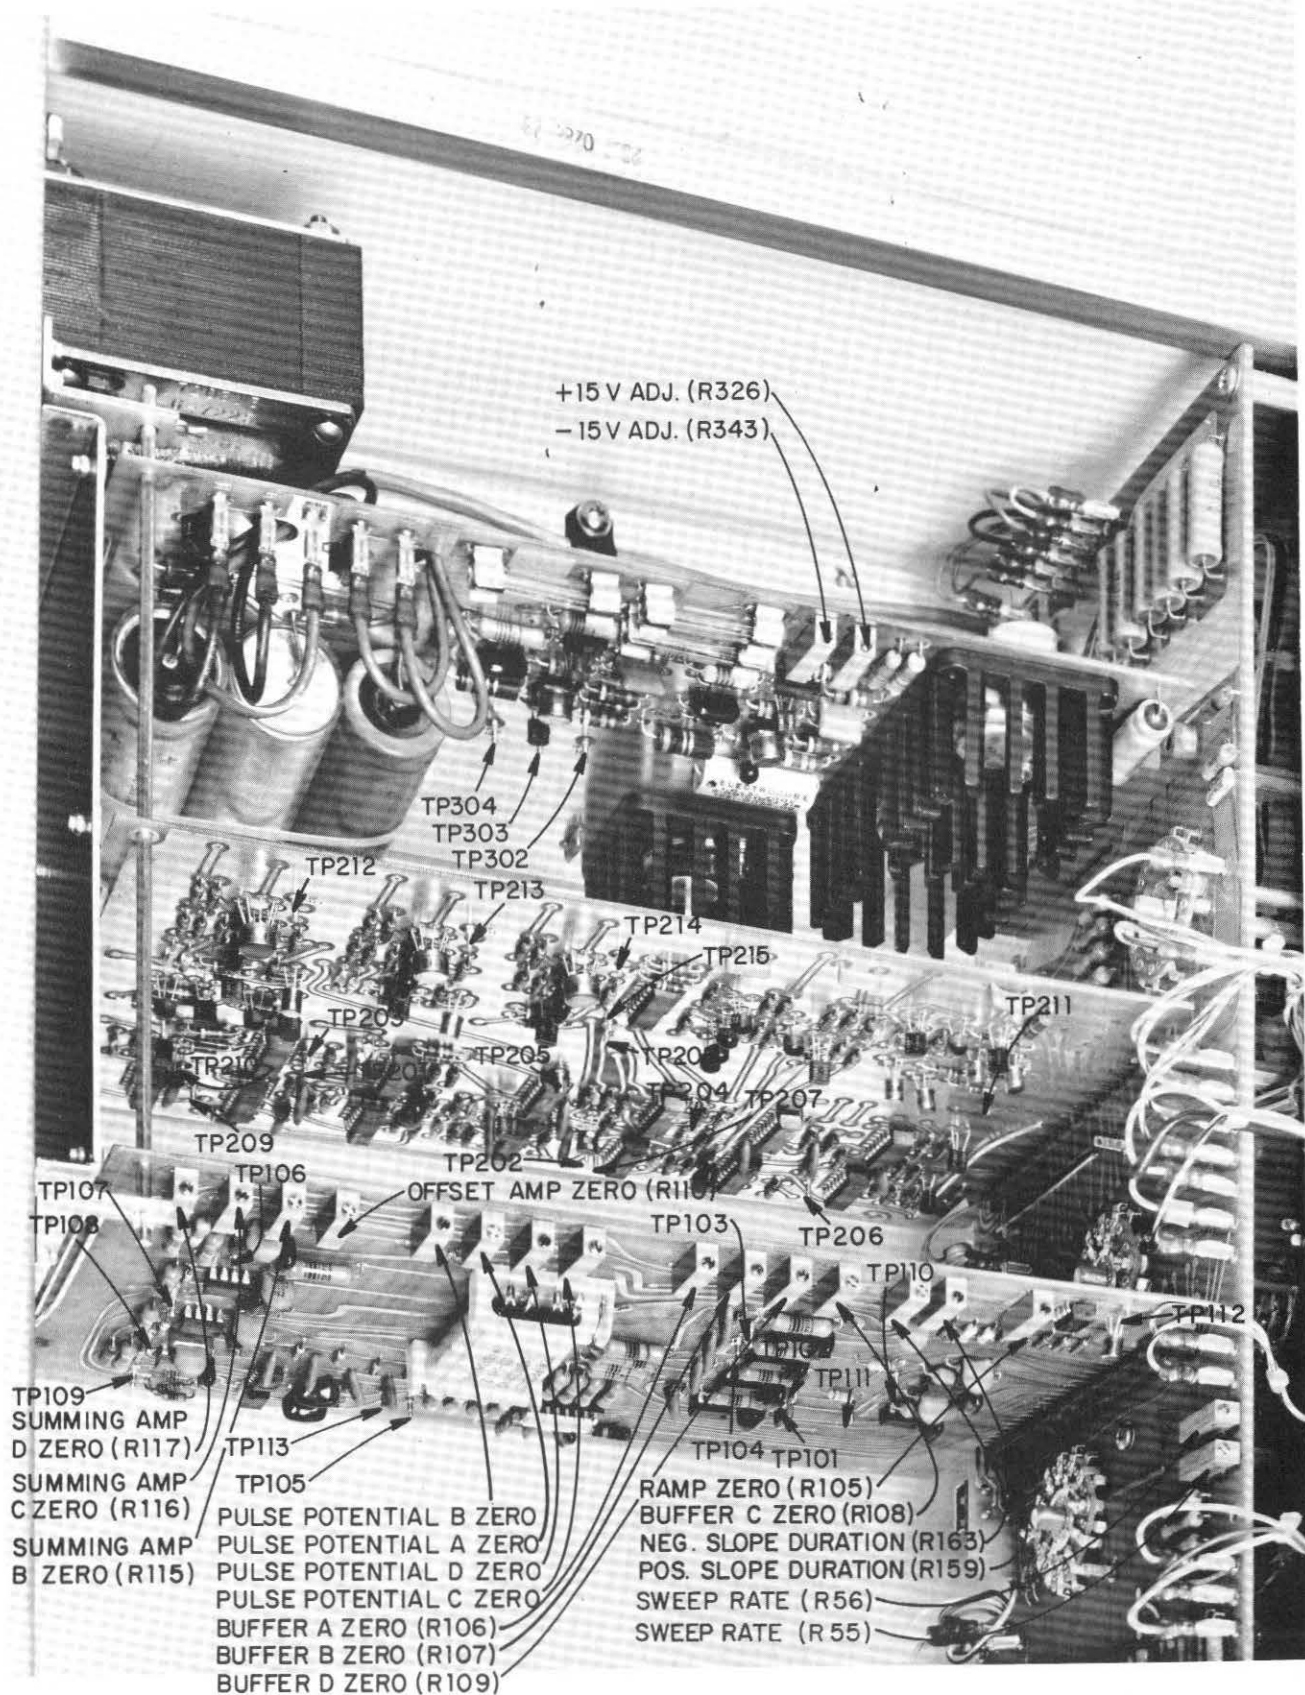

Figure IV-1. MODEL 175 ADJUSTMENTS AND TESTPOINTS
A special convention is used throughout this section to aid in physically identifying the adjustments. When the component number of an adjustment is mentioned, that number is followed by another number in parentheses. The number in parentheses indicates which of the adjustments on that particular circuit board is being called out. Number (1) represents the adjustment closest to the front of the instrument on the circuit board in question. Number (2) represents the next adjustment, moving towards the rear. Number (3) is the third, and so forth, up to as high a number as is required. Thus, for example, R106(7) represents the seventh adjustment from the front on the Amplifier board. Figure IV-1, in addition to identifying the boards, gives a secondary means of identifying the adjustments. Note that all "100 series" components are located on the Amplifier board, all "200 series" components are located on the Logic board, and all "300 series" components are located on the Power Supply board.
- Adjust R163(3) on the Amplifier board for an indicated duration of 10.00 ms.
- Adjust R159(2) on the Amplifier Board for an indicated duration of 10.00 ms.
- Sweep Rate ----- R56 (located on Mother board; see Figure IV-1)